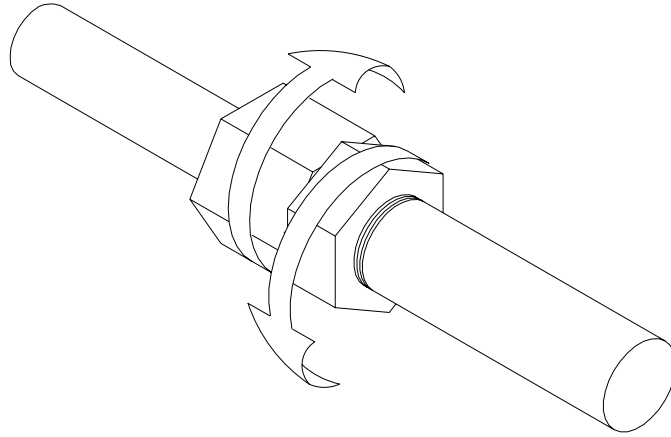

Figure 3.7 Loosen the fittings
- 3: Loosen the clinch assembly fittings, starting with the joint closest to the discharge head as shown in figure 3.7.